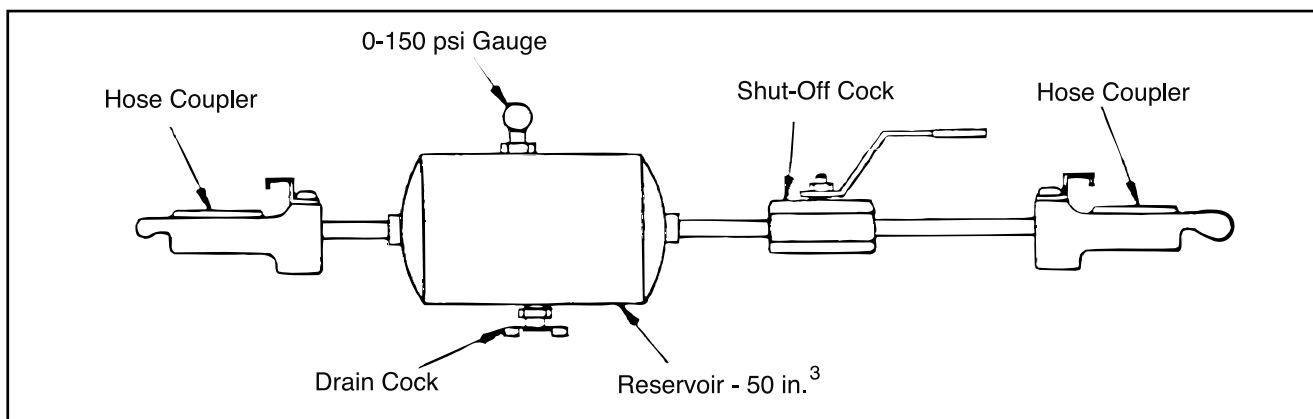

Fig. 1: Diagram of a 50-cu. in. Reservoir Test Unit
2. Two 50-cu.in.tank test units (see **Figure 1**).